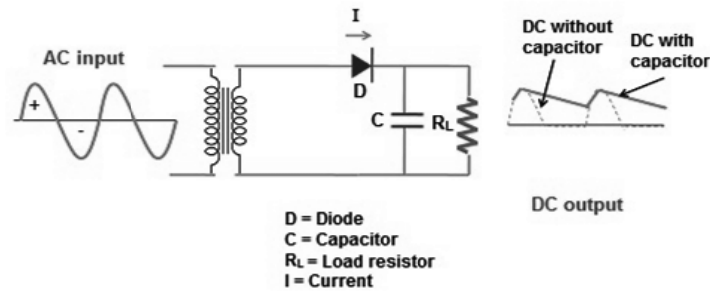

Figure1: Half wave rectifier with capacitor filter
1. Connect the Electronic circuit for half wave rectifier on bread board as shown in Figure 1.